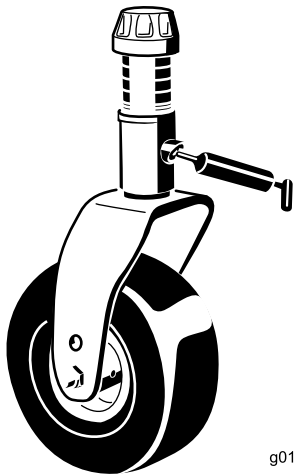

Figure 41
- 1 caster-fork-shaft bushing (Figure 41)